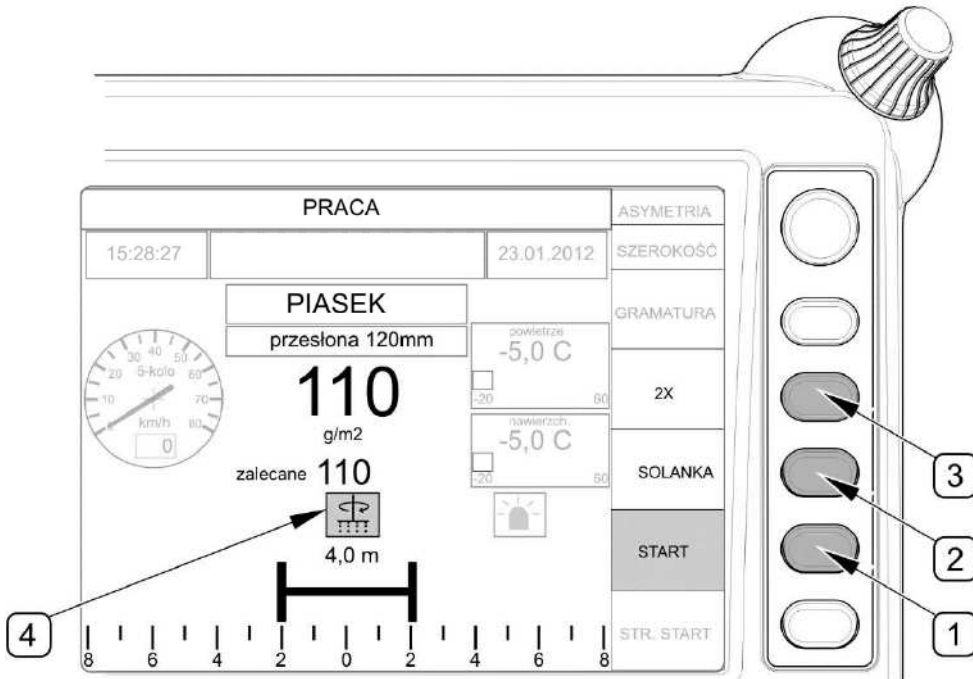

FIG. 4.30 Activation of spreading
(1) - spreading activation push-button; (2) - brine spraying activation push-button; (3) - double dose push-button; (4) - control icon of activated spreading
On control panel working page "OPERATION" (FIG. 4.30), activate spreading by means of push-button (1), "START" function will be highlighted. Activation of spreading disc drive and belt conveyor is signalled by control icon (4). Brine spraying is switched on and off by means of push-button (2) "BRINE". Push-button (3), marked „2X”, is used for momentary doubling of spreading material dose.